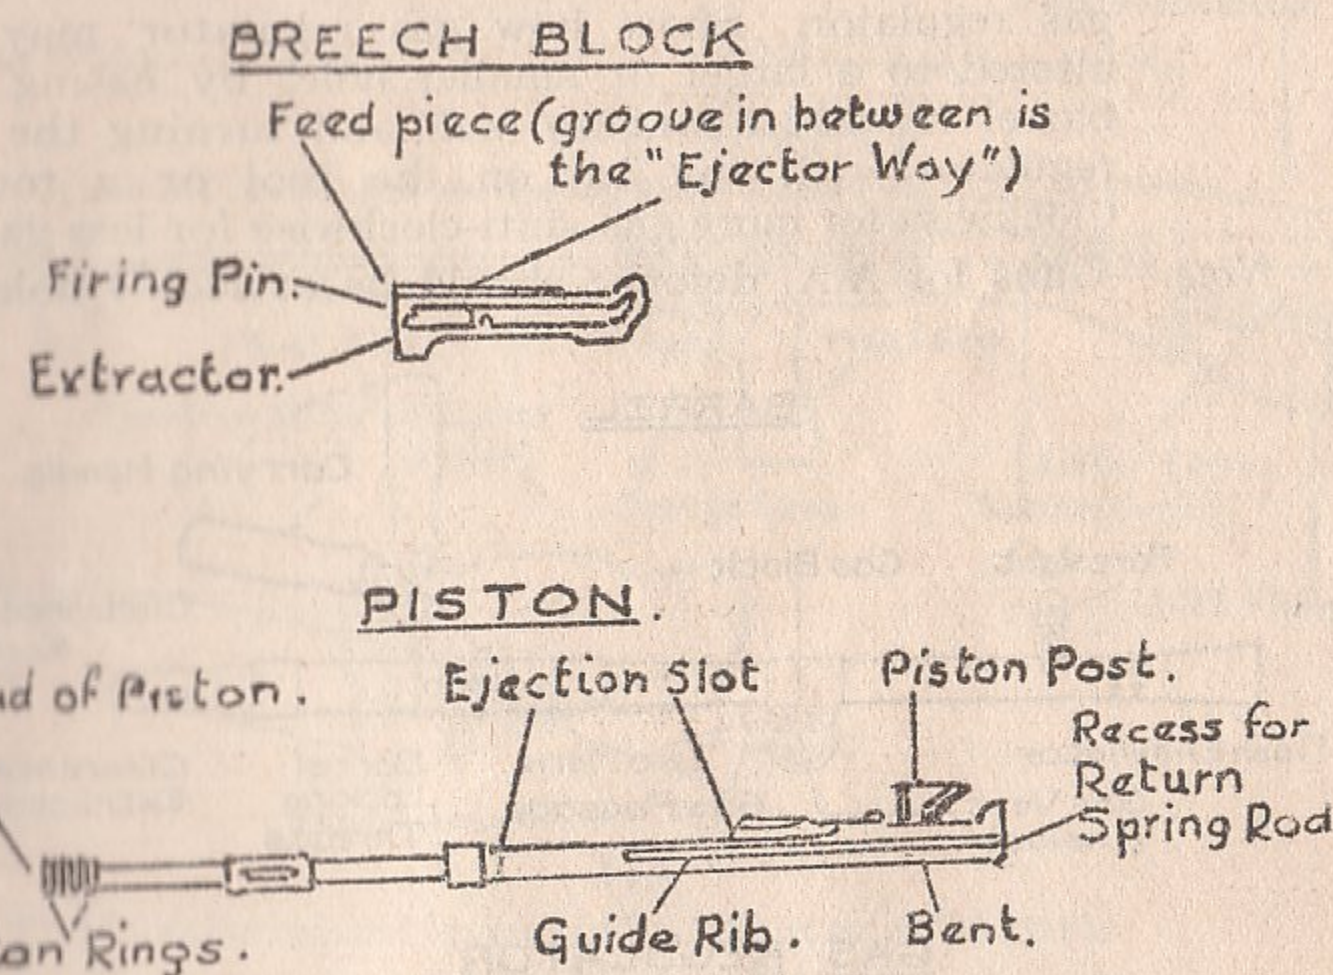

FIG. 5. PISTON GROUP.
- vii. Name the principal parts of the piston group (see Fig. 5).